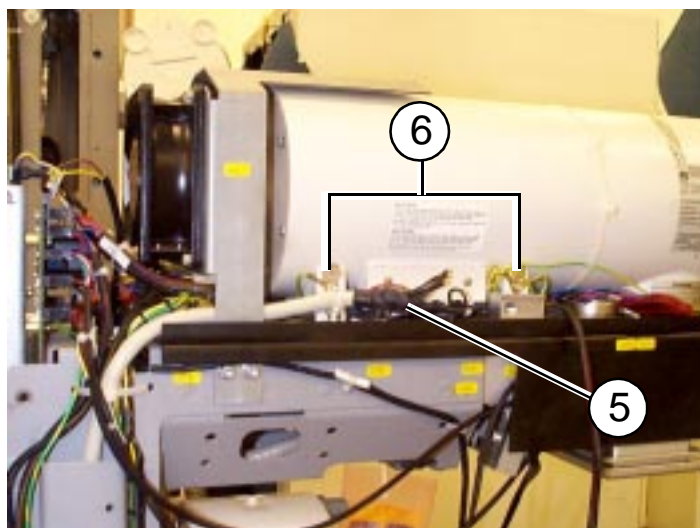

Fig. 2
6. Disconnect the individual wires of plug X896 (filament). (See Fig. 2, pos.5).
8. Remove the 4 screws (see Fig. 2, pos.6).